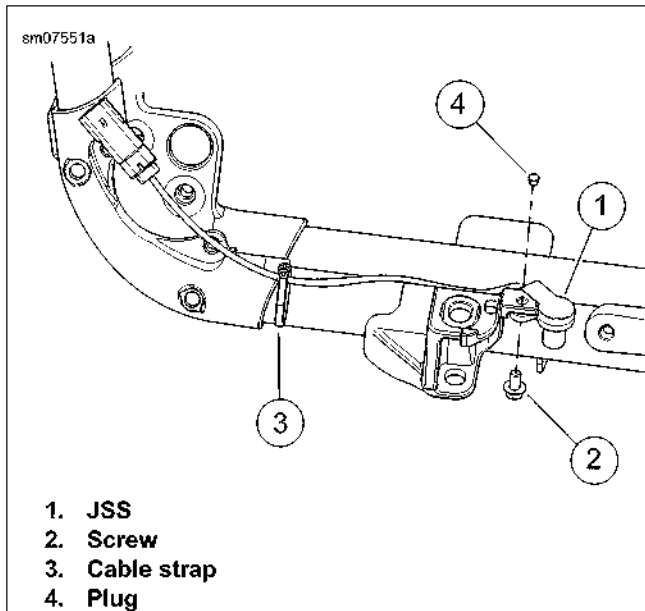

Figure 6-106. JSS Harness Routing
2. See Figure 6-106. With JSS (1) aligned with mounting tab on jiffy stand bracket, tighten screw (2) to 96-120 in-lbs (10.9-13.6 Nm).